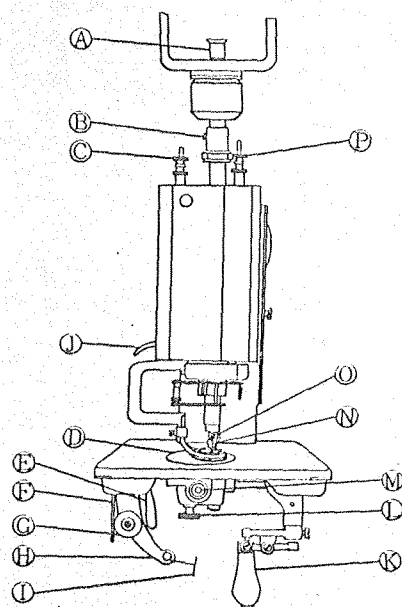
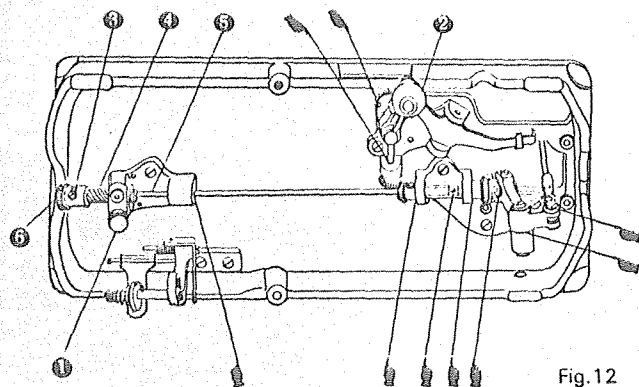

Fig. 4
Fig. 12
6. TO REMOVE, REPLACE AND SET NEEDLE AND NIPPLE (Fig. 4)
The pressure on the presser foot is regulated by the thumb screw ③, Fig. 4. To increase the pressure, turn the thumb screw over to the right or downward. To decrease the pressure, turn the thumb screw over to the left or upward.
14. THE LOOPER (Fig. 12)
Allow the stop motion to throw the machine out of action and make sure that it is securely held in its looking position. Raise the needle holder to avoid breaking the point of the needle, remove the needle plate after removing the thumb screw (c), Fig. 12, and observe the notch in the looper which, when in its correct position, should be at the rear slightly to the right of the needle, while the handle (d) is toward the front.
15. TO SET THE LOOPER (Figs. 4 & 12)
Turn the machine back on its hinges and turn handle ②, Fig. 12 and screw ③, Fig. 4 to the front. Loosen set screw ④, Fig. 12 of the operating worm gear ⑤, and turn the gear slightly, until the notch in the looper is in its correct position as instructed above. After having set the worm gear flush with the end of the looper shaft ⑥, tighten the set screw ④.
18. RAY STITCH (Figs. 4 & 7)
(1) For loosening thread (Fig. 4)
loosen the screw ③, Fig. 4 and lift the needle bar ④ so that the thread loosens.
19. PILE OR MOSS STITCH (Figs. 4, 10 & 12)
The raised pile or moss stitch is produced by adjusting the machine so that it will drop the stitches in loose loops on the materials. To accomplish this, turn handle ④, Fig. 4 to the front, loosen the screw ① and turn the needle bar ② so that the hook of the needle will point directly to the back of the machine, then tighten the screw ③. Reach under the bed of the machine with the left hand, grasp the knurled end ⑤, Fig. 12 of the operating worm gear ⑥ draw the worm gear to the left and while holding it turn handle ② around to the right directly to the back, then release the knurled end of the gear.